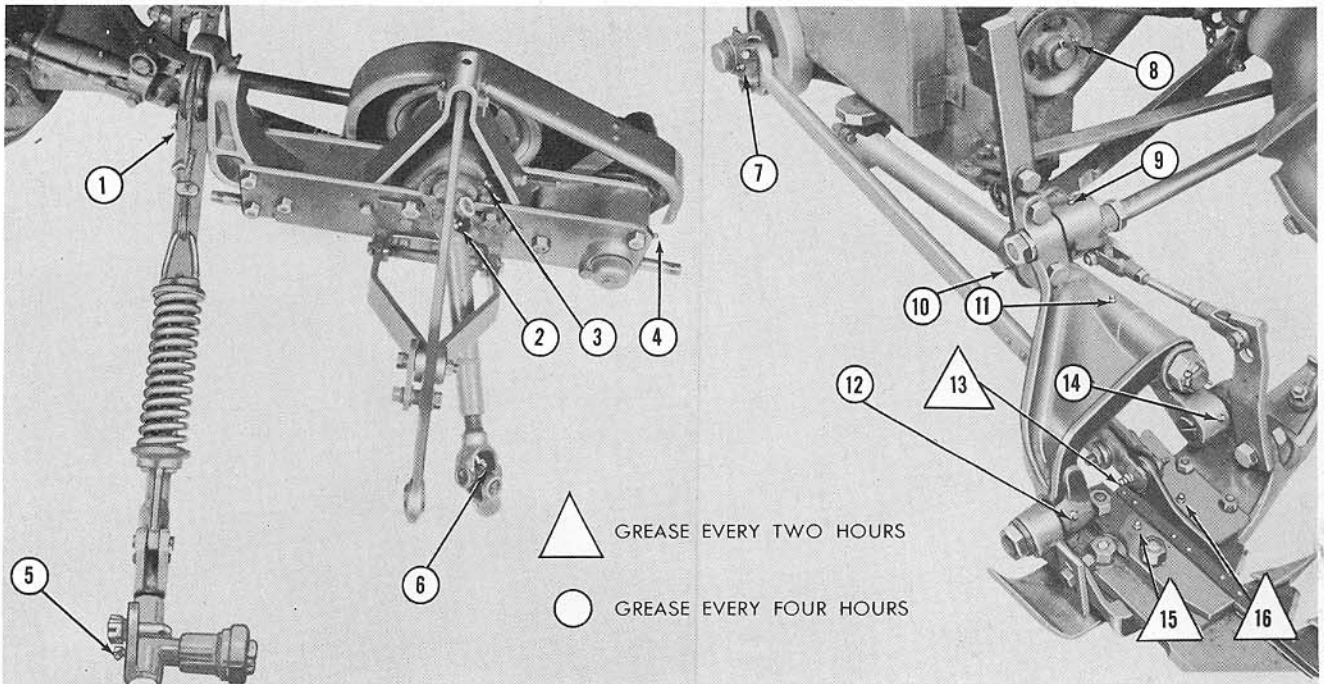

Figure 23
There are sixteen grease fittings on the Dearborn Rear Attached Mower as shown in Figure 23. The knife head and pitman clamp fitting (13) and the knife head guide plate fittings (15) and (16), Figure 23, should be greased after every two hours of operation. All other fittings should be greased after every four hours of operation. Lubricate the wearing surface of the knife clips every two hours with No. 30 grade machine oil.
(2) and (6), Figure 23, are prepacked on some mowers.